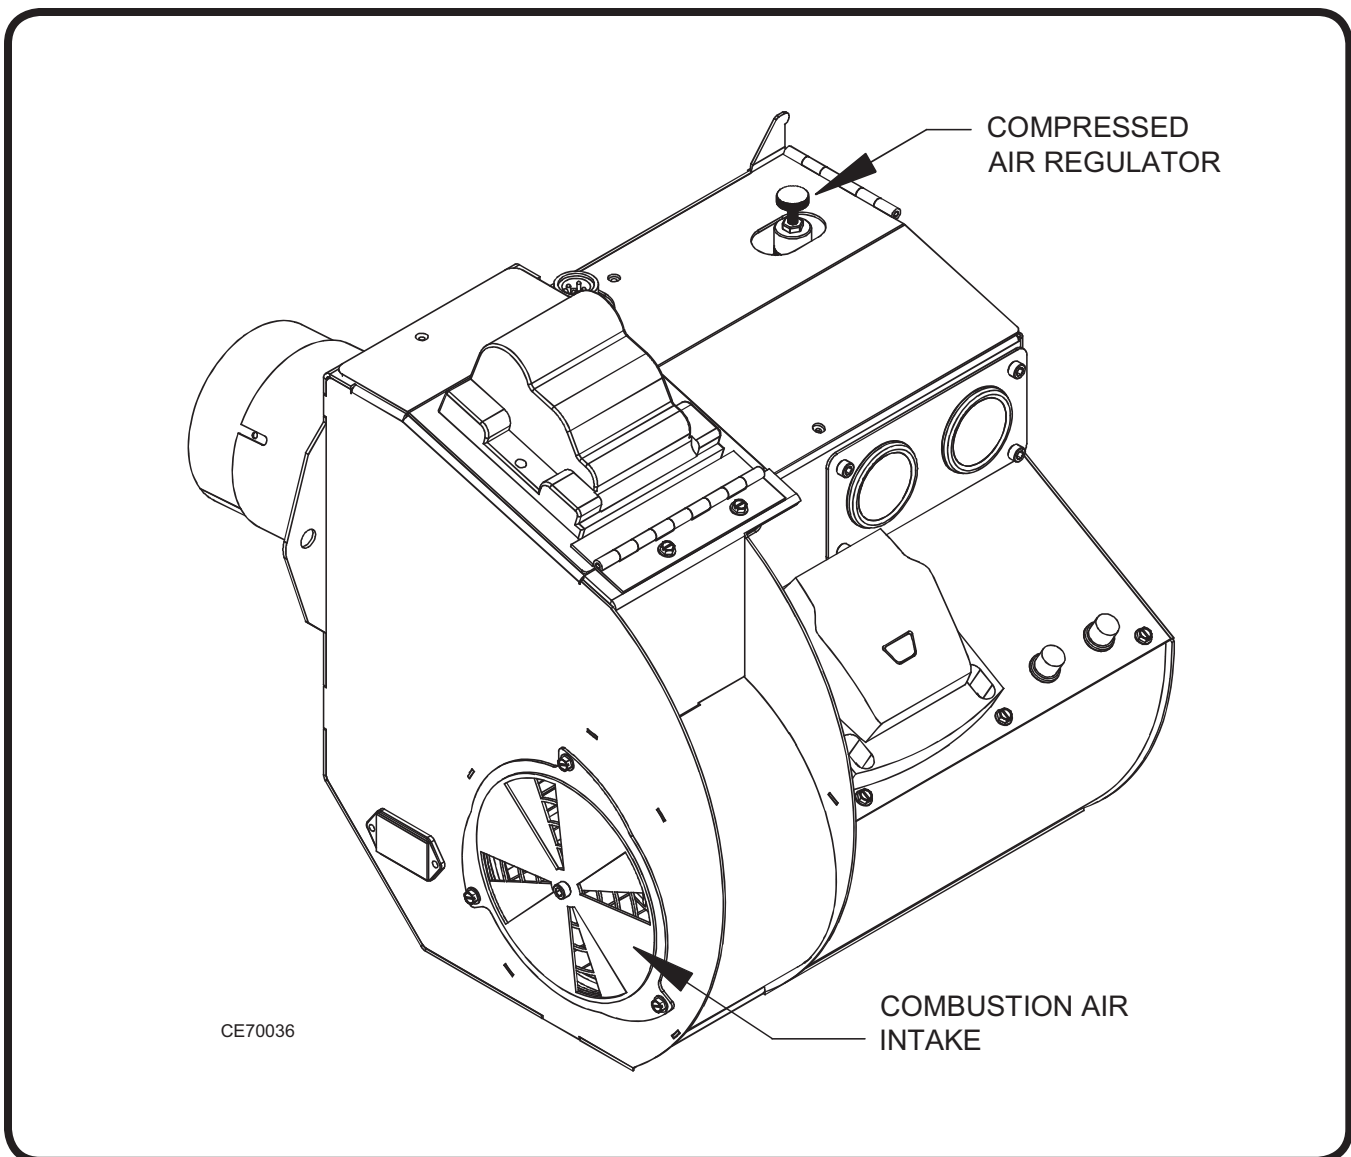

Figure 24: Flame Adjustment
- (1) Once a flame is established adjust the combustion air intake and the compressed air pressure to maintain a healthy flame (refer to Figure 24).
- (2) The air intake plate on the left side of the burner can be adjusted to increase or decrease the pie shaped opening sizes to let in more or less combustion air.
- (3) The compressed air pressure can be adjusted by turning the knob on the air regulator.
- (4) Visually inspect the flame to ensure proper settings.
- (5) The flame should go 1/2 to 3/4 of the way down the combustion chamber, and should not impinge on any surface of the combustion chamber.